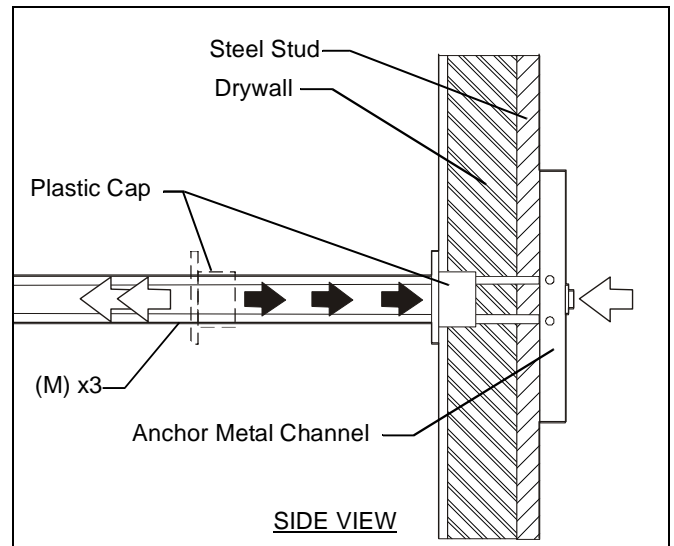

Figure 4
7. Holding plastic straps on anchor (L), pull anchor away from wall until channel rests flush behind wall making sure anchor channel is positioned vertically on stud as show in figures below. (See Figure 4)
8. Slide plastic cap on anchor (L) towards wall until flange of cap is flush with wall. (See Figure 4)